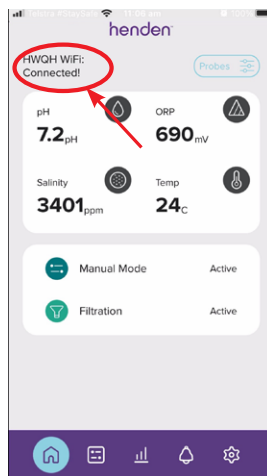

Figure 12.1
- Always ensure your HWQH is connected to Wi-Fi when troubleshooting connectivity concerns. This can be checked via the HWQH dashboard (refer Figure 12.1).